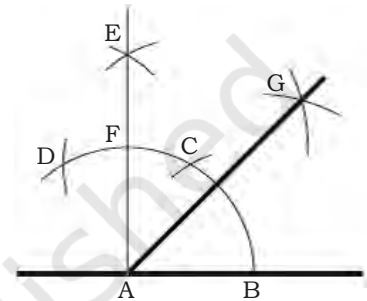

Fig. 1.11: Constructing an angle of  $45^\circ$
- Join AG. Angle GAB is of  $45^\circ$  (Fig. 1.11).